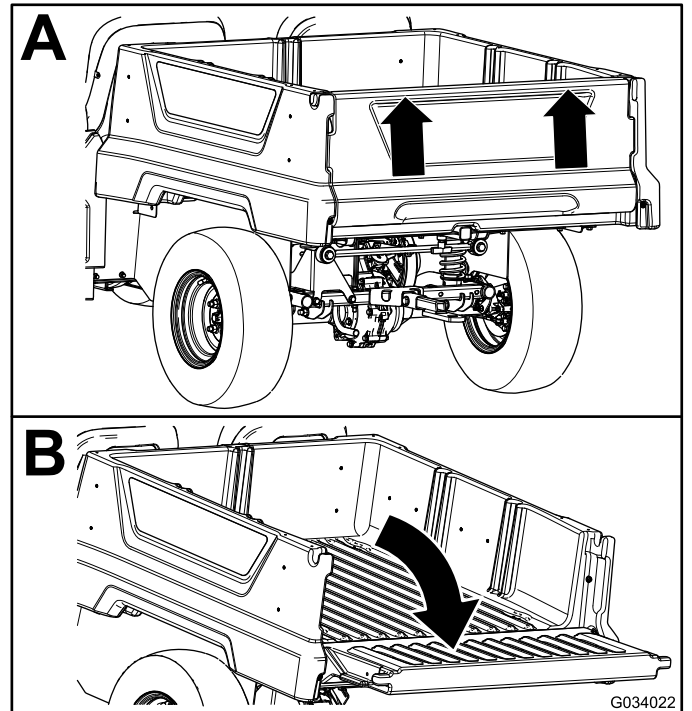

Figure 22
2. Using both hands, raise the tailgate using the ridge near the top of the tailgate (Figure 22).
3. Lower the tailgate until it is flush with the bottom of the cargo bed (Figure 22).